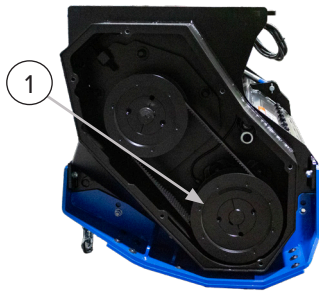

Figure 4
2. Apply reflective tape to the rotor pulley (Item 1, Figure 4).